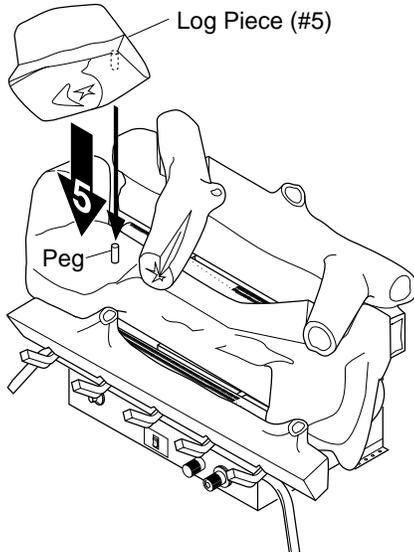

Figure 30 - Installing Log Piece (#5)
5. With knot to right side, place smaller log piece (#5) over the pin on the left side of the middle log. The smaller log will rest on front log against the "knot" on the left (see Figure 30, page 15).